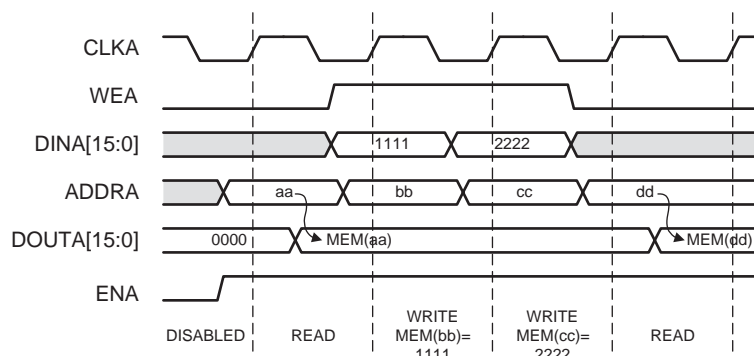

Figure 28: No Change Mode Example
- **No Change Mode:** In NO\_CHANGE mode, the output latches remain unchanged during a Write operation. As shown in Figure 28, the data output is still the previous Read data and is unaffected by a Write operation on the same port.